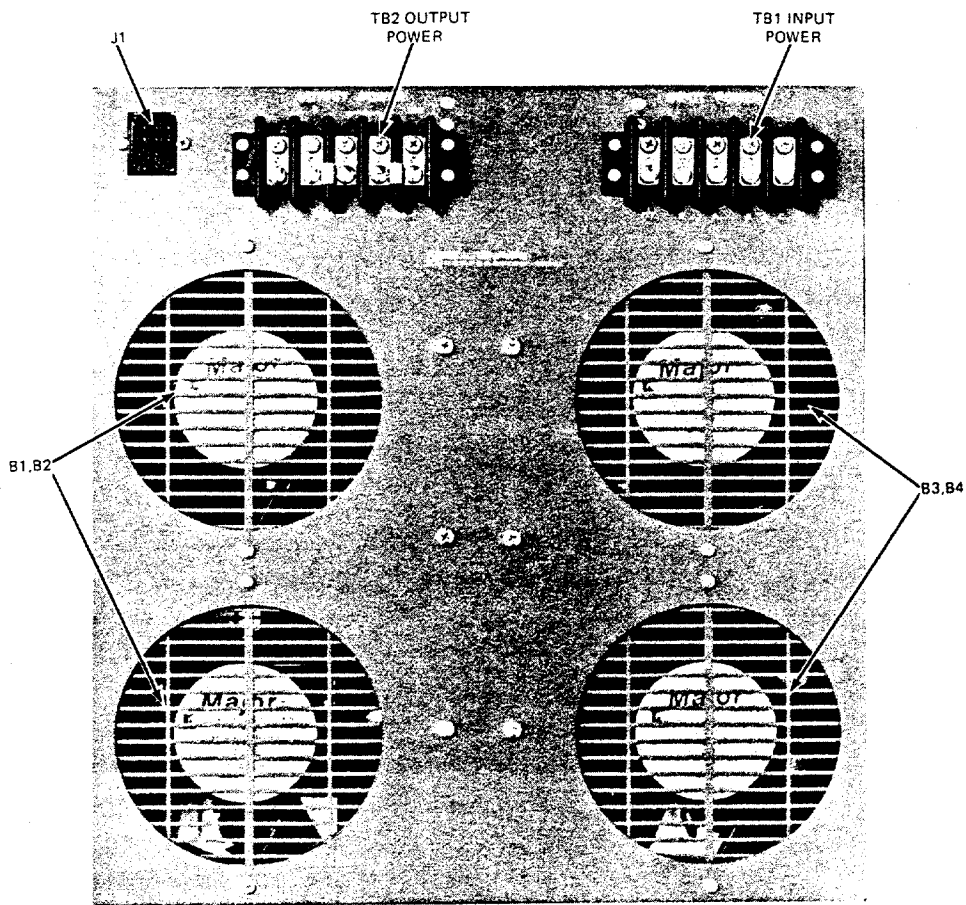

Figure 3-2. Rear Panel Terminal Strip Connections, Model 3001B
3. Connect the load to the appropriate terminal of the rear panel power output terminal block (see Figure 3-1 or Figure 3-2).